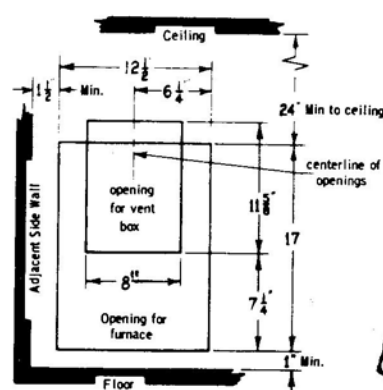

FIG. 1 Front view showing furnace cutout and outside wall cutout for vent box
3. Provide a 12½" wide x 17" high opening in wall where furnace is to be mounted. The surface of an adjacent inside wall may not be closer than 1½" to one side of this opening. The bottom of opening may not be closer than 1" to the floor or the top closer than 24" to the ceiling. See Figure 1.
4. Provide an 8" wide x 11½" high opening through outside wall to accommodate vent assembly. This opening must be as shown in Figure 1. Check the location and size of this opening very carefully.